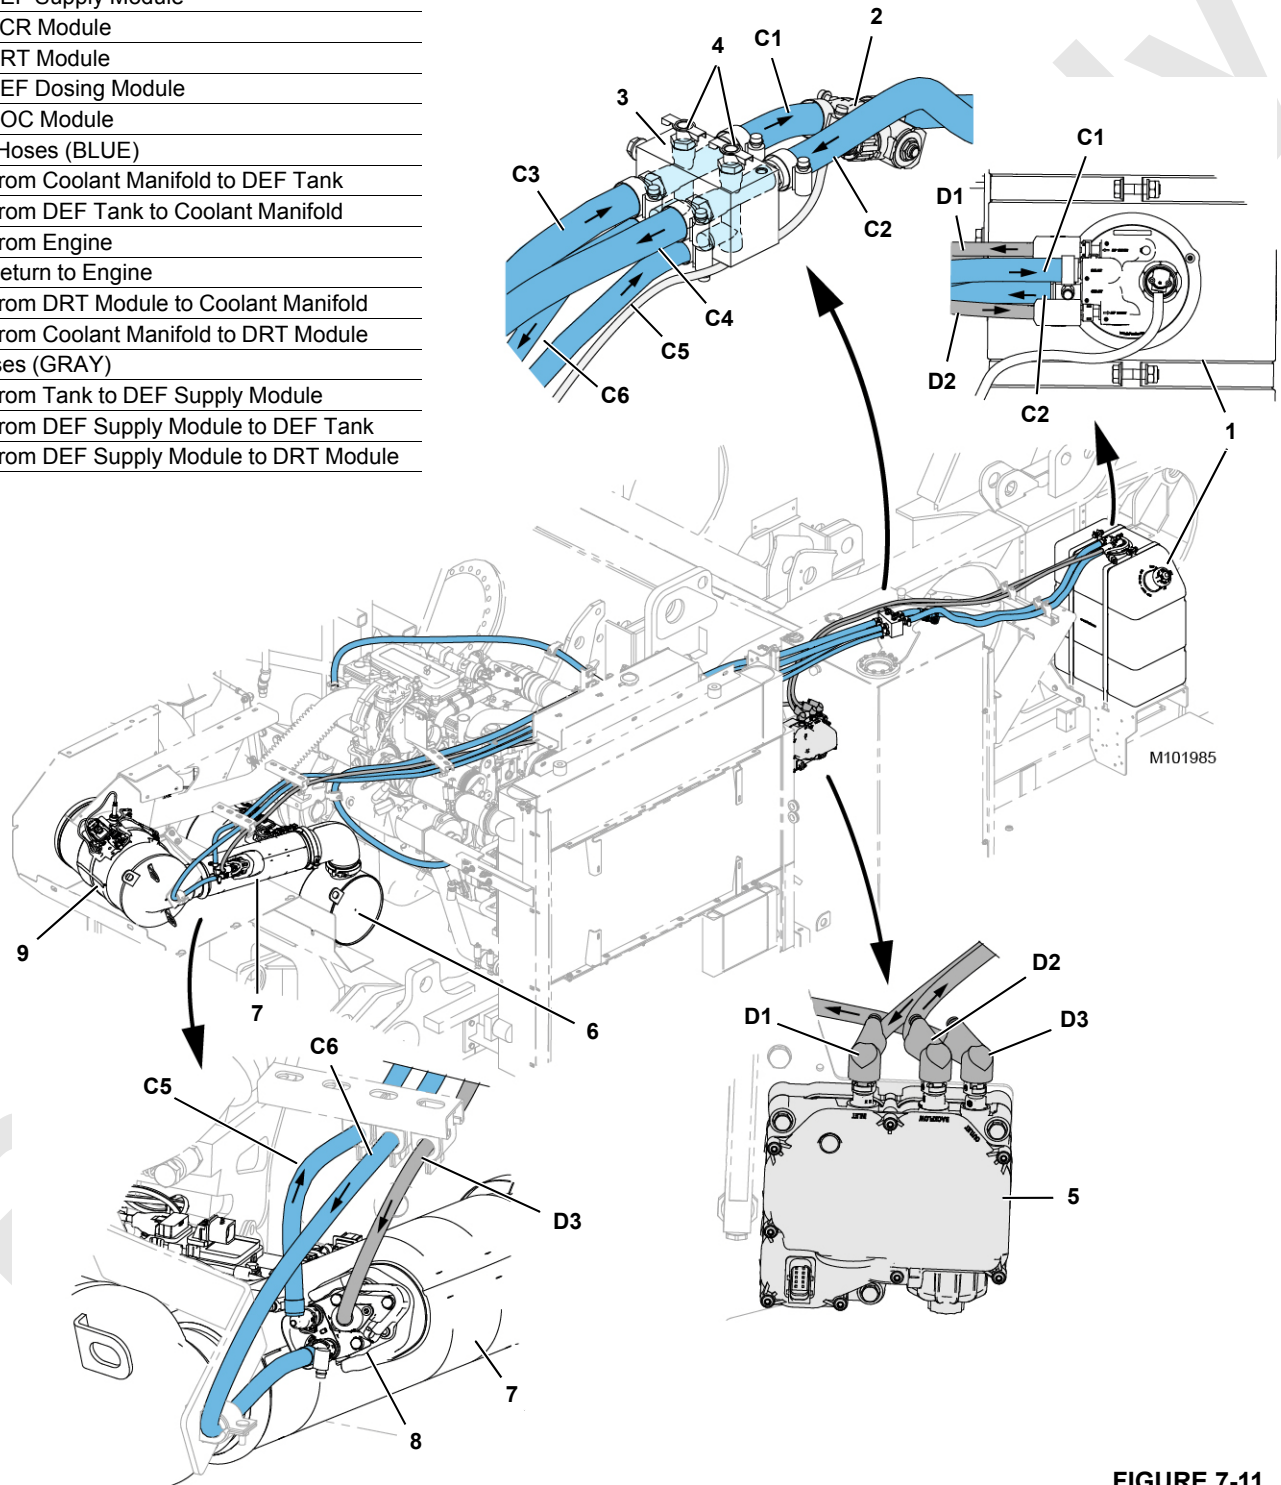

FIGURE 7-11
See Figure 7-11 for the following procedures.
The DEF tank (1, Figure 7-11) houses 15 gallons (57 L) of DEF. DEF consists of 32% urea and 68% de-ionized water. A constant mist of DEF, equal to 2-3% of the fuel used, is injected into the DRT module (7). This is about 10 gallons (38 L) of DEF for 2 to 3 tanks of fuel.
See Figure 7-11 for coolant hose routing and flow direction.